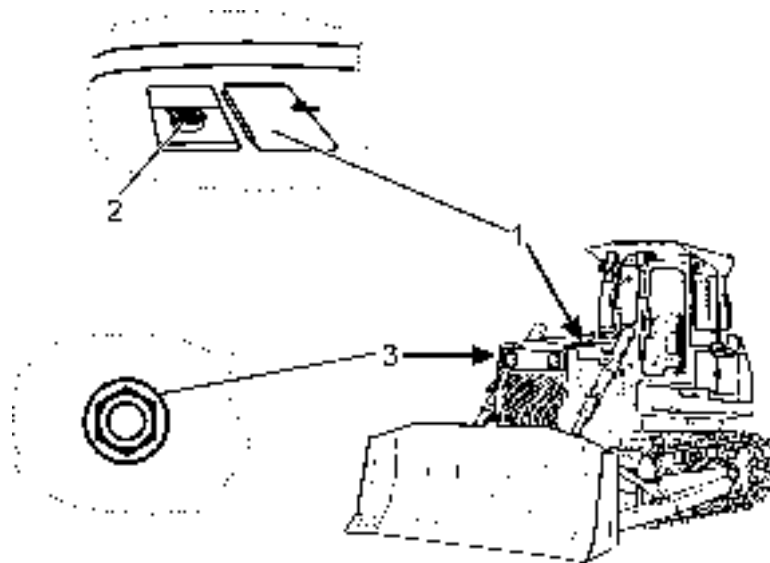

Fig. 5.8. Radiator Cap and Coolant Level Sight Gauge
1. Check the coolant level daily to be sure that the level is proper. Coolant level must be seen in the sight gauge (3, Fig. 5.8).
2. Fill the cooling system slowly. This allows more air to escape and the system to be filled to its maximum capacity. Fill the system until the coolant fills completely the sight gauge (Fig. 5.8), approximately 43 [mm] above the inner baffle in the radiator top tank.